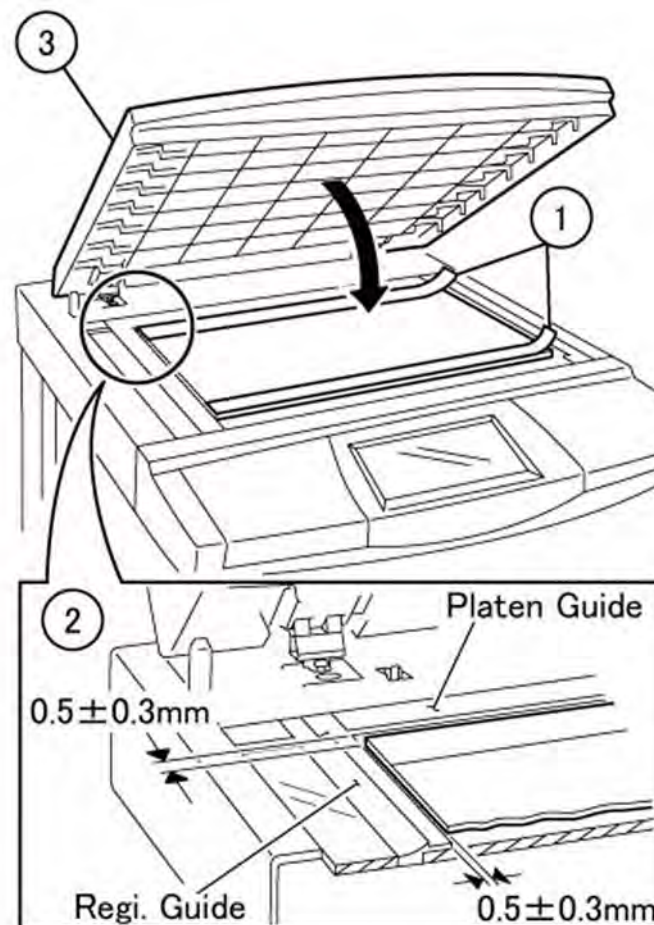

Figure 2 Replacing the Platen Cushion
1. Install the Platen Cushion (Figure 2).